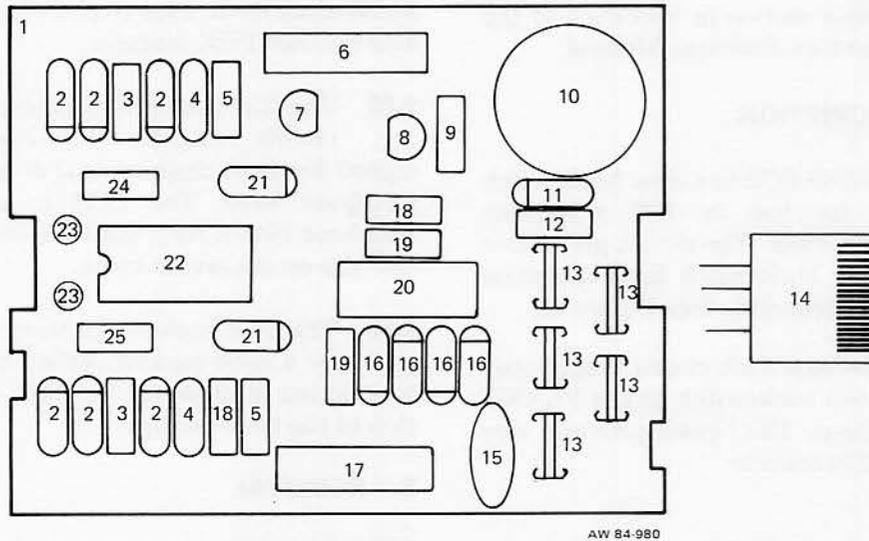

Figure 3: Model 186260 Dual Hookswitch Flash PCB, Component Location
2.05 The dual hookswitch flash circuit is a printed circuit assembly. (See Figure 3.) It is designed for field replacement; it is mounted to the telephone base. The PCB is connected to the telephone circuit with spade-tip leads and a double-row slip-on connector block.